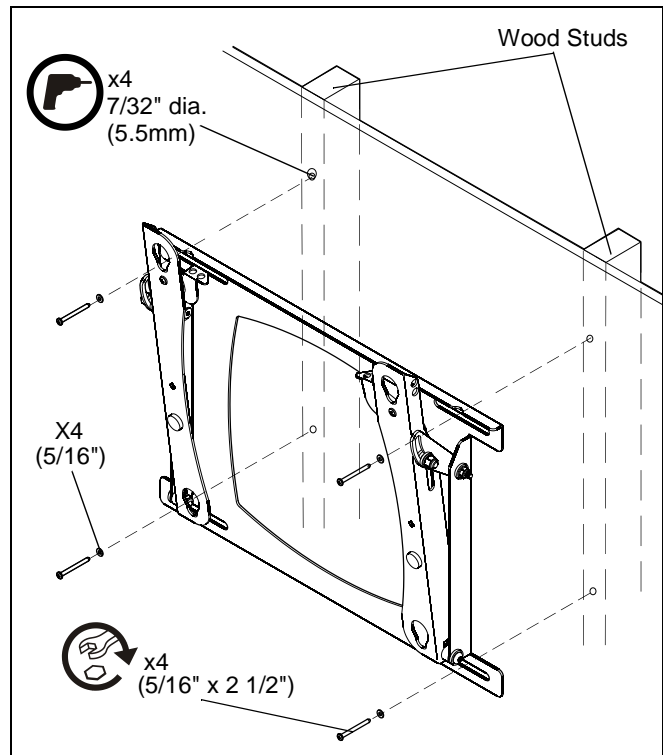

Figure 2
5. Drill four $7/32"$ dia. (5.5mm) pilot holes at marks. (See Figure 2)